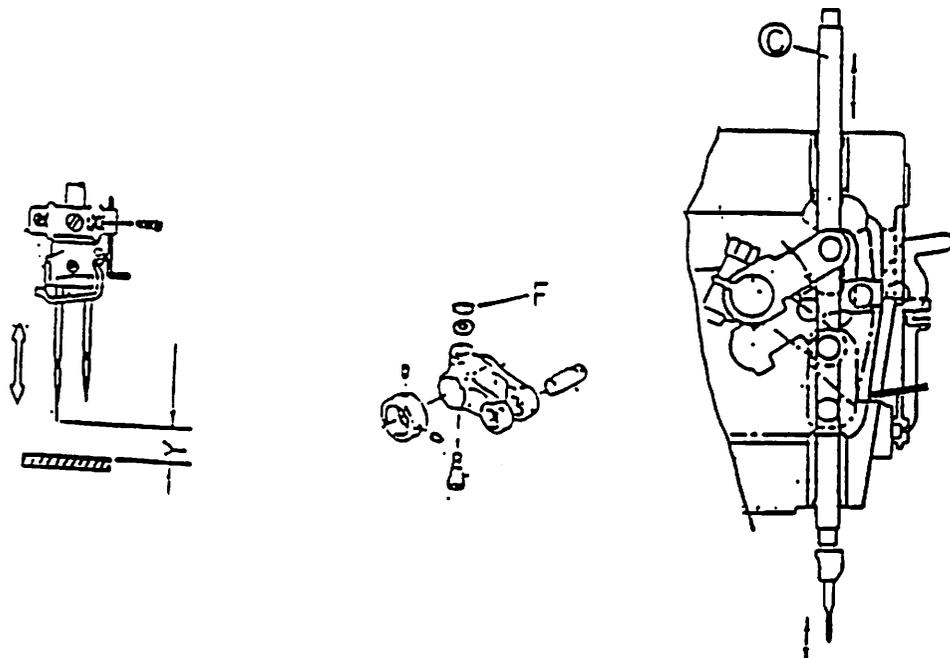

Fig. 7
(10) Height of Needle Bar (Fig 7)
The distance between the needle plate surface and the needle point at the highest position of the needle bar is different according to the needle gauge. (Refer to Table 3) To adjust it, loosen the nut F shown in Fig 7, raise or lower the needle bar to given dimension Y, and tighten the nut F.